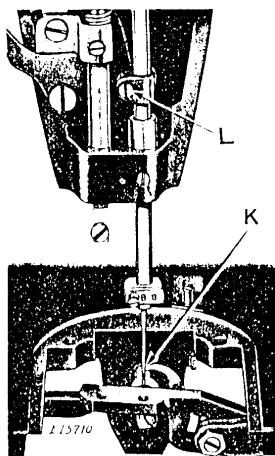

Fig.5 Needle Bar Set at Correct Height
If the needle bar is not set at the correct height, remove the face plate and loosen the needle bar connecting stud clamp screw (L, Fig.5). Raise or lower the needle bar to the required height, then securely tighten the screw (L).
With the needle bar at its lowest position, turn the balance wheel toward you so that the needle bar moves up $1/8$ inch. In this position, the point of the looper should be at the center of the needle and slightly above the needle eye as shown at (K, Fig.5).